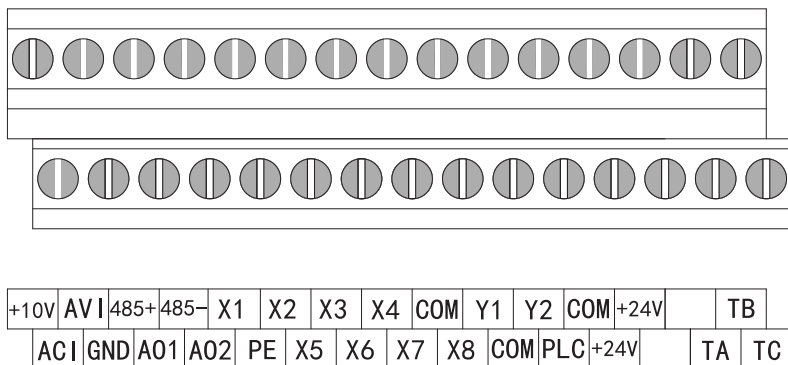

Fig. 3-25 Control Circuit Terminals 1
5.2.1 Control circuit terminal are shown in the Fig.3-24and Fig.3-25.